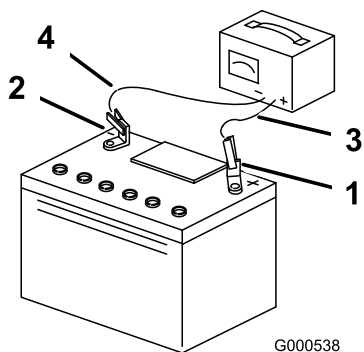

Figure 49
5. When the battery is fully charged, unplug the charger from the electrical outlet, and disconnect the charger leads from the battery posts (Figure 49).